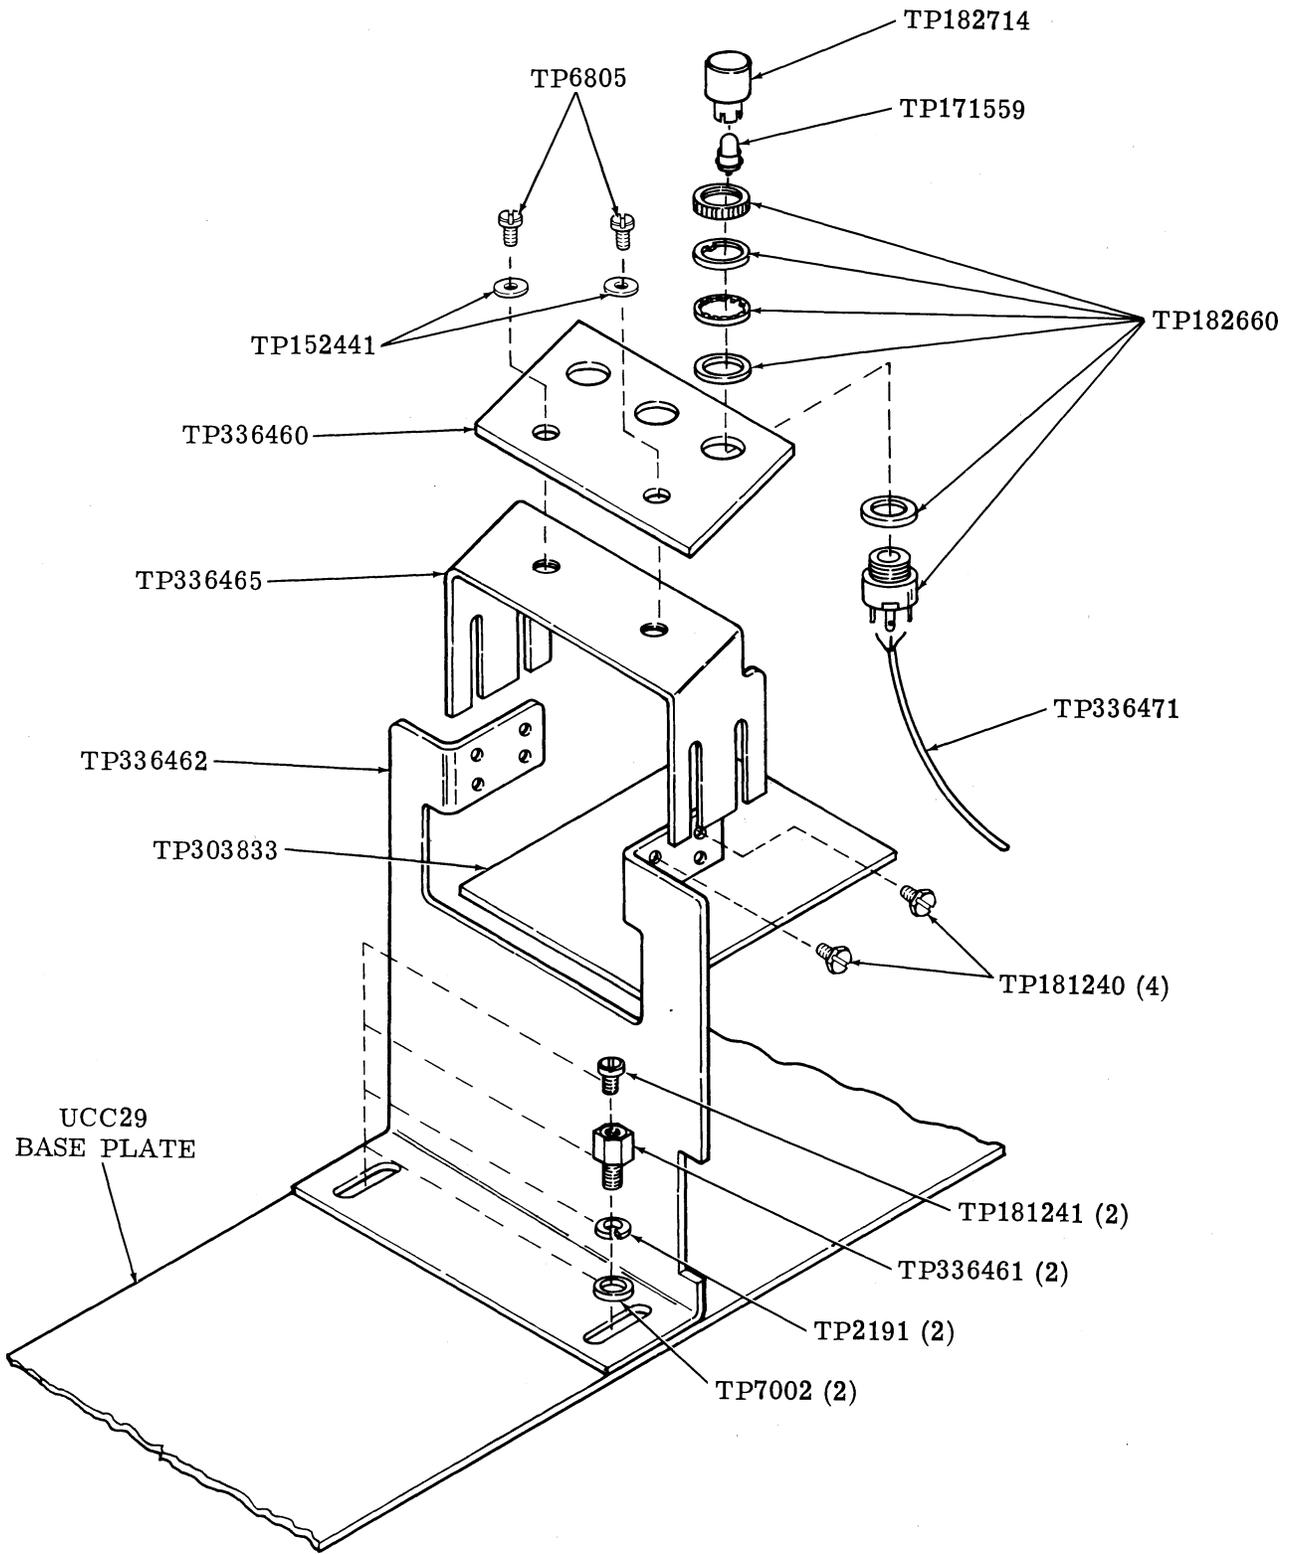

Figure 7 - Break Detector and Indicator
6.02 The TP336462 bracket mounts on the UCC29 call control unit base plate (refer to Figure 7). The TP303833 break detector card is part of the TP186630 modification kit but mounts in the card connector (CN on 8162WD) on the UCC29 call control unit.